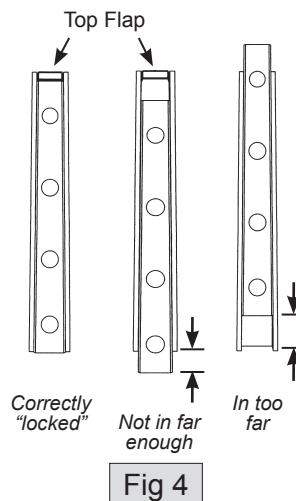

Fig 4
5. Use your fist or palm of your hand to gently pound the back cushion down until the interlocking wedges are "locked" together. You may find that a rubber mallet is helpful for this step, but be sure to protect the fabric with a towel, clean cardboard, or other such material. A standard hammer is not recommended. **Important: Wedges are correctly "locked" when the inner wedge comes into contact with the top flap of the outer wedge, and the bottom edges align, as shown in figure 4. Avoid excessive force or damage to the wedges may occur.**
TROUBLESHOOTING TIP: If back cushion is not level, check that wedges on both sides are correctly "locked" as shown in figure 4.